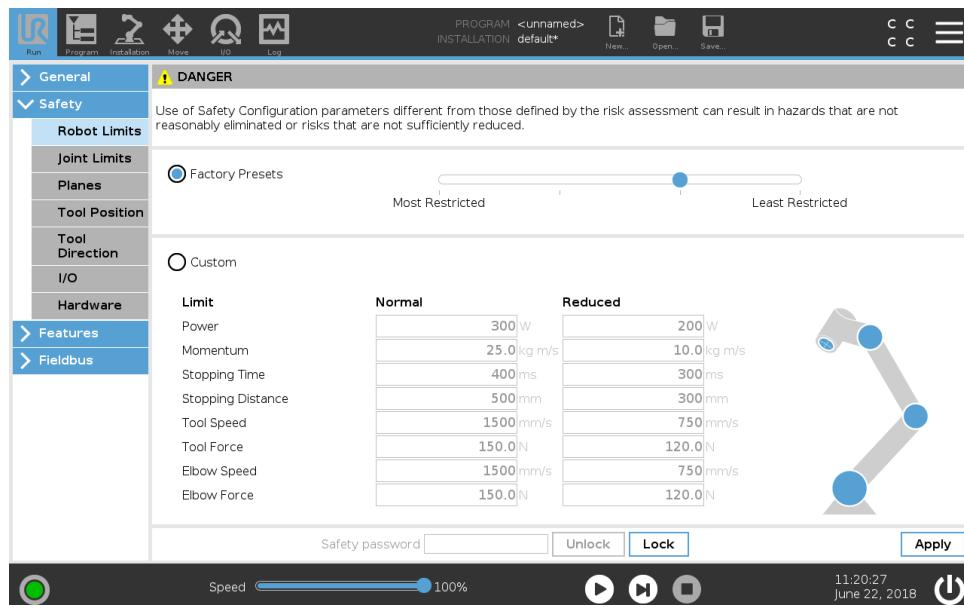

Figure 2.5: Safety settings
- (6) In the Side Menu on the left, tap **Safety** and select **Robot Limits**.
- (7) Enter your safety password to unlock Safety Configuration.
- (8) Set Factory Presets to **Least Restricted** and tap **Apply** (see Figure 2.5).
- (10) In the Header, hold down the Run Tab to access **Expert Mode**. See Figure 2.5.
- (11) Enter **lightbot** and tap **OK**.